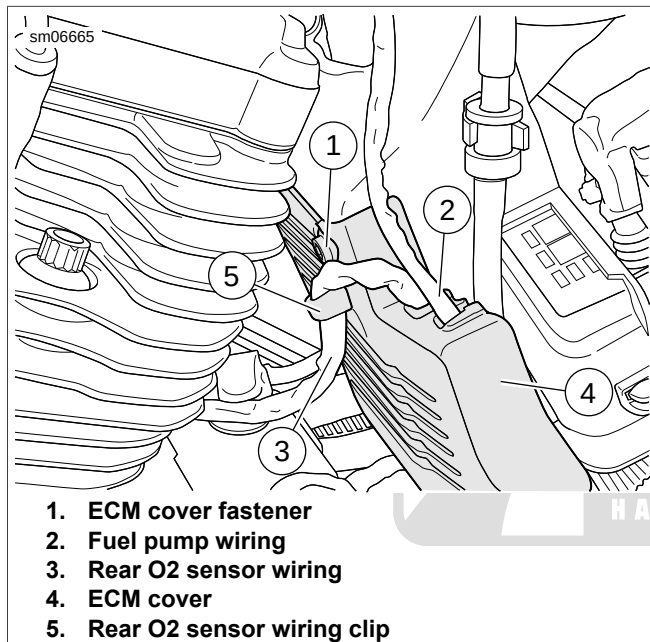

Figure 6-8. ECM Cover: XL Models
2. See Figure 6-8. Remove fuel pump wiring (2) from ECM cover (4). Disconnect fuel pump connector [141].
3. Remove rear oxygen sensor (O2) wiring (3) from rear O2 sensor wiring clip (5) and ECM cover. Disconnect rear O2 connector [85].
4. Remove ECM cover fastener (1).
3. See Figure 6-8. Slide ECM cover (4) into position from left side of motorcycle.
4. Install ECM cover fastener (1). Tighten to 30-60 **in-lbs** (3.4-6.8 Nm).
5. Connect rear O2 connector [85]. Install O2 sensor wiring (3) into ECM cover and clip (5)
6. Connect fuel pump connector [141]. Install fuel pump wiring (2) into ECM cover (4).